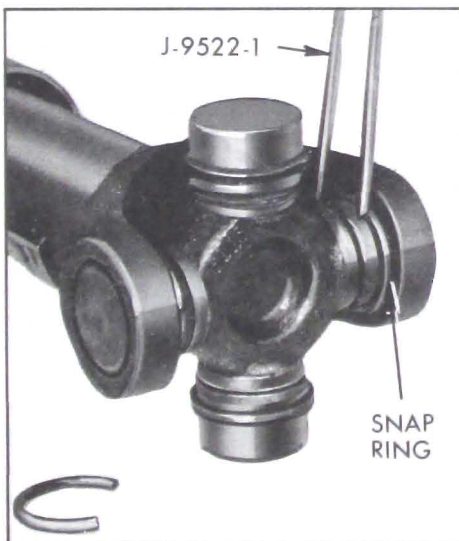

Figure 6-45—Removing Snap Rings From Propeller Shaft
1. Remove snap rings from the bearings. The snap rings are on the inside of the yoke and can be removed with the aid of Tool J-9522-1. See Figure 6-45.